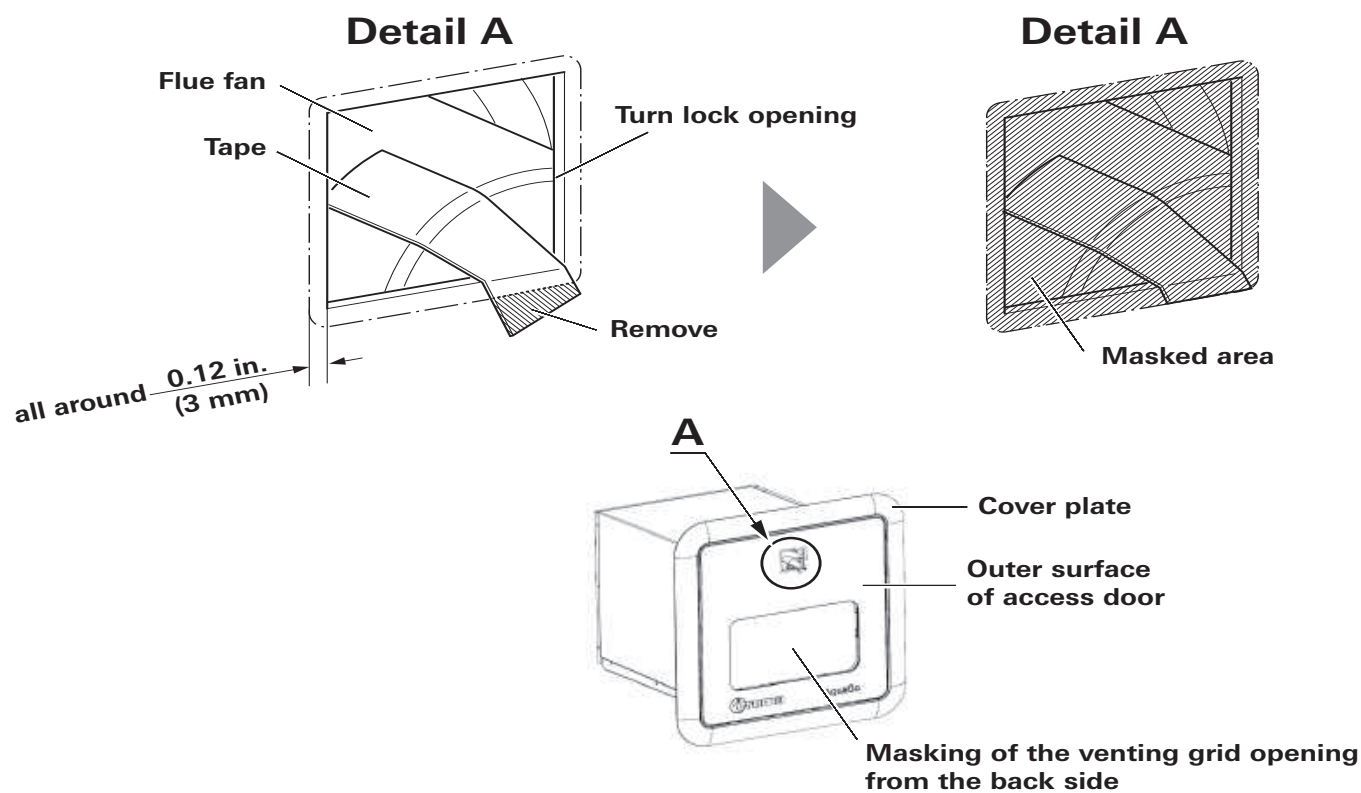

Fig. 38
The following parts (see Fig. 38) may be painted:
- This can be done with the help of tape that joins the flue fan and the edge of the turn lock opening (see Fig. 38 for this detail).